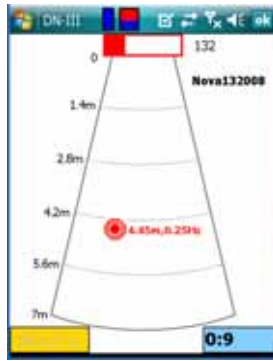
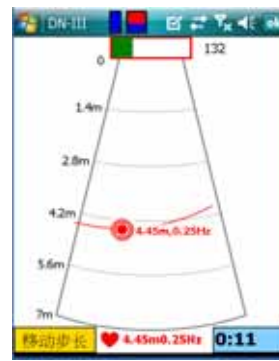

Figure 8 Two-dimensional imaging interface—first detection
Figure 9 Two-dimensional imaging interface—finish first detection
- Click “确定” to display the two-dimensional imaging interface, and it is similar with the one-dimensional distance interface, as figure 8. Start the first detection. When the respiratory signal of target exceeds a certain threshold, the upper red square turns to green, and display a curve with center at the square, and the distance and the respiratory frequency showed on the bottom of the interface, as figure 9.